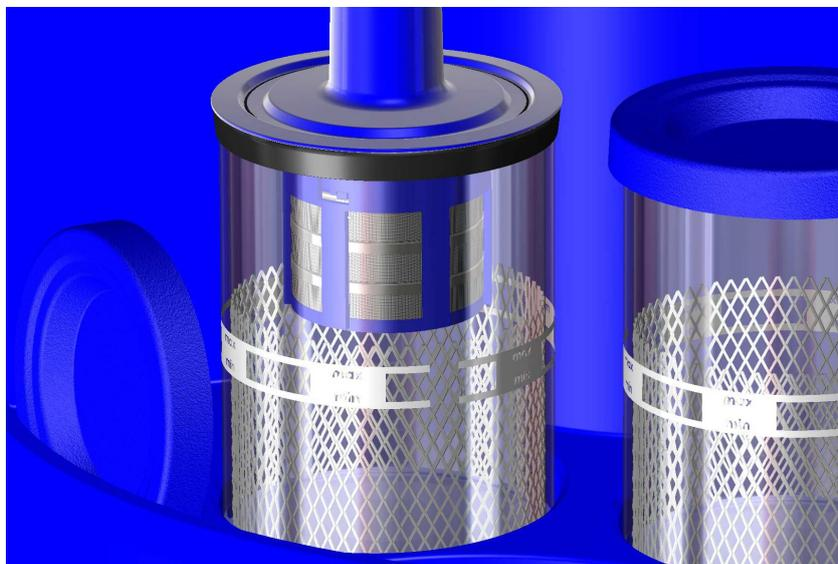

Fig. 3.8.4. Spinning position (middle position)
- Middle position (in the media tank – above the cleaning / rinsing liquid): Spinning position (Fig. 3.8.4).